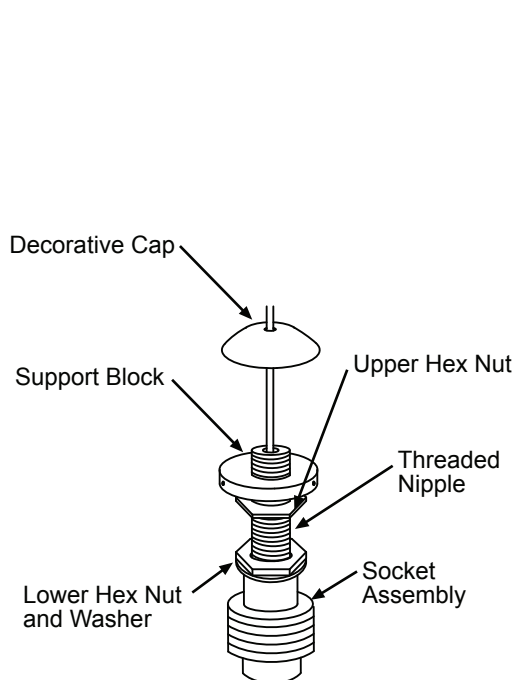

Figure 1
1. Begin by threading the Treaded Nipple into the top of the Socket Assembly and secure using the Lower Hex Nut and Washer provided. Then secure the Support Block using the Upper Hex Nut and Decorative Cap provided. See figure 1.